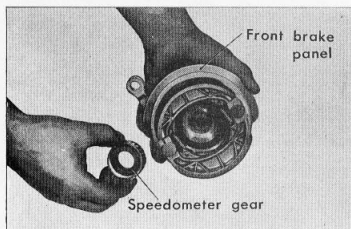

Figure 4-19. Removing speedometer gear
- (5) Remove the front brake cam and the speedometer gear from the front brake panel. (Fig. 4.19)
- (6) Remove the tire and tube from the rim using a tire lever and pull out the tube from the tire.